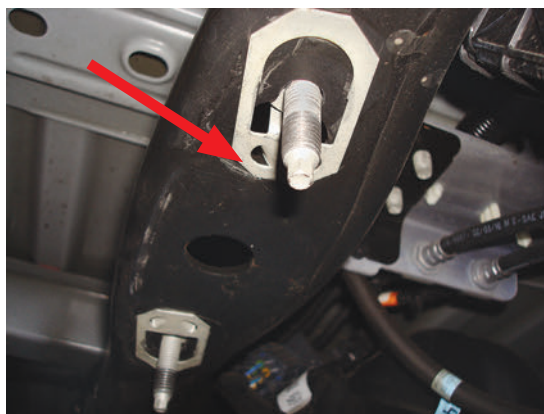

fig. D.3
3. Remove the clip-in studs by prying on the hinged end with a screwdriver. Pull all four – two from each side – out from the frame (Fig. D.3).